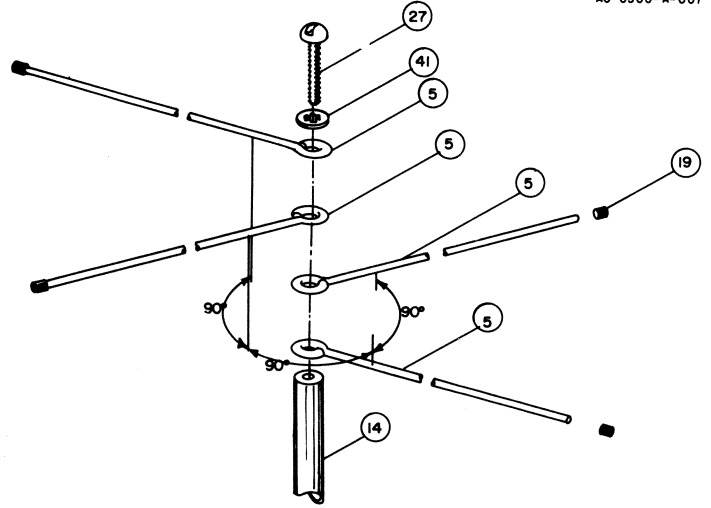

Figure 5
- ( ) Assemble the top hat radials as shown in Figure 5. They should be spaced 90 degrees apart.